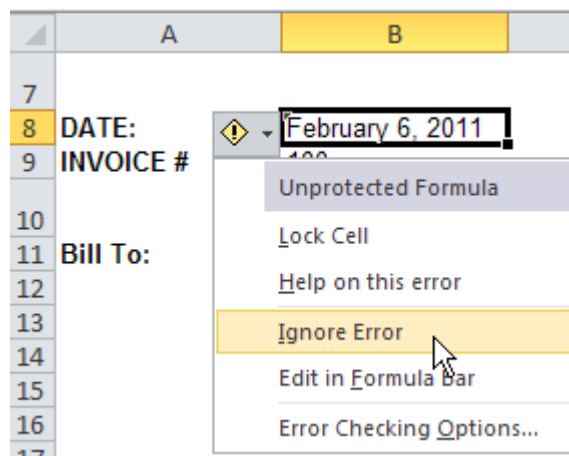

Figure 8.40. The Error Checking button is used to resolve potential errors.
14. Notice the green triangle that displays in cell B8. Click B8 and read the ScreenTip that displays. Excel recognized that there are formulas in these cells and the cells are not locked. Click the Error Checking button next to the cell and from the displayed menu click Ignore Error as shown in Figure 8.40. This removes the green triangle from the corner of the cell.